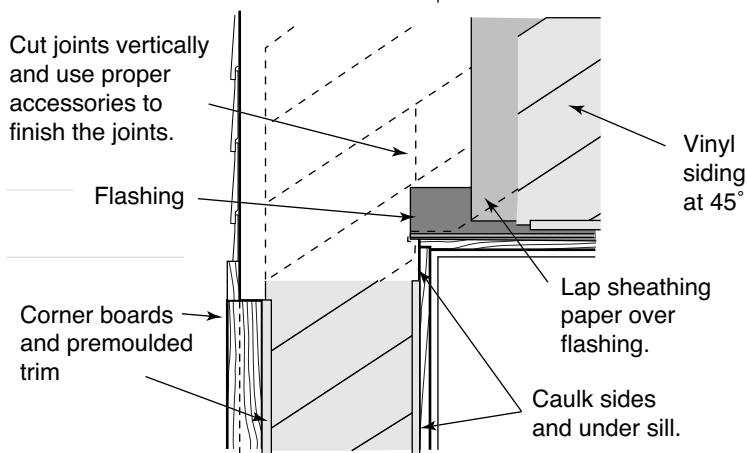

FIGURE 39
- With diagonal siding, cut the joints perpendicular to the ground, and overlap the lower strip with the upper strip (see Figure 39).